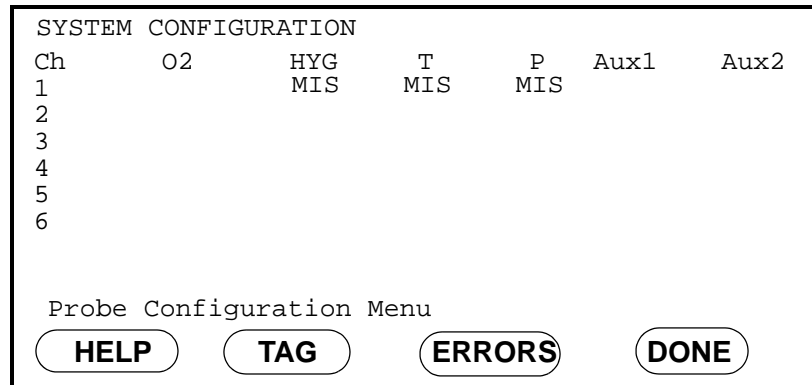

Figure 35: MIS Probe Configuration on Channel 1
- Verify that the correct probe types have been activated for each channel. To do this, make sure a probe is activated for each measurement it is capable of taking. For example, if a Moisture Image Series Probe with the temperature and pressure functions is connected to channel 1, “MIS” must be selected in the hygrometry, temperature, and pressure columns as shown in Figure 35.